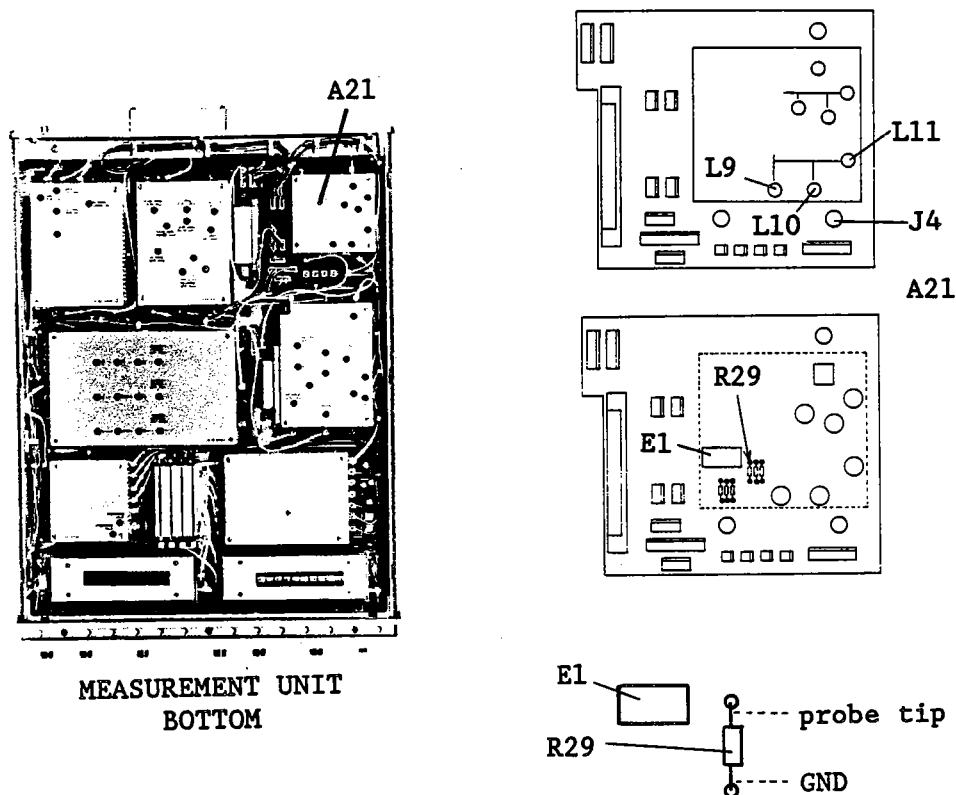

Figure 3-75. Receiver Second IF Converter 246 MHz BPF Adjustment Locations
4. Connect the Probe ground lead to the grounded lead of A21R29, and connect the probe tip to the other side of A21R29 as shown in Figure 3-75.